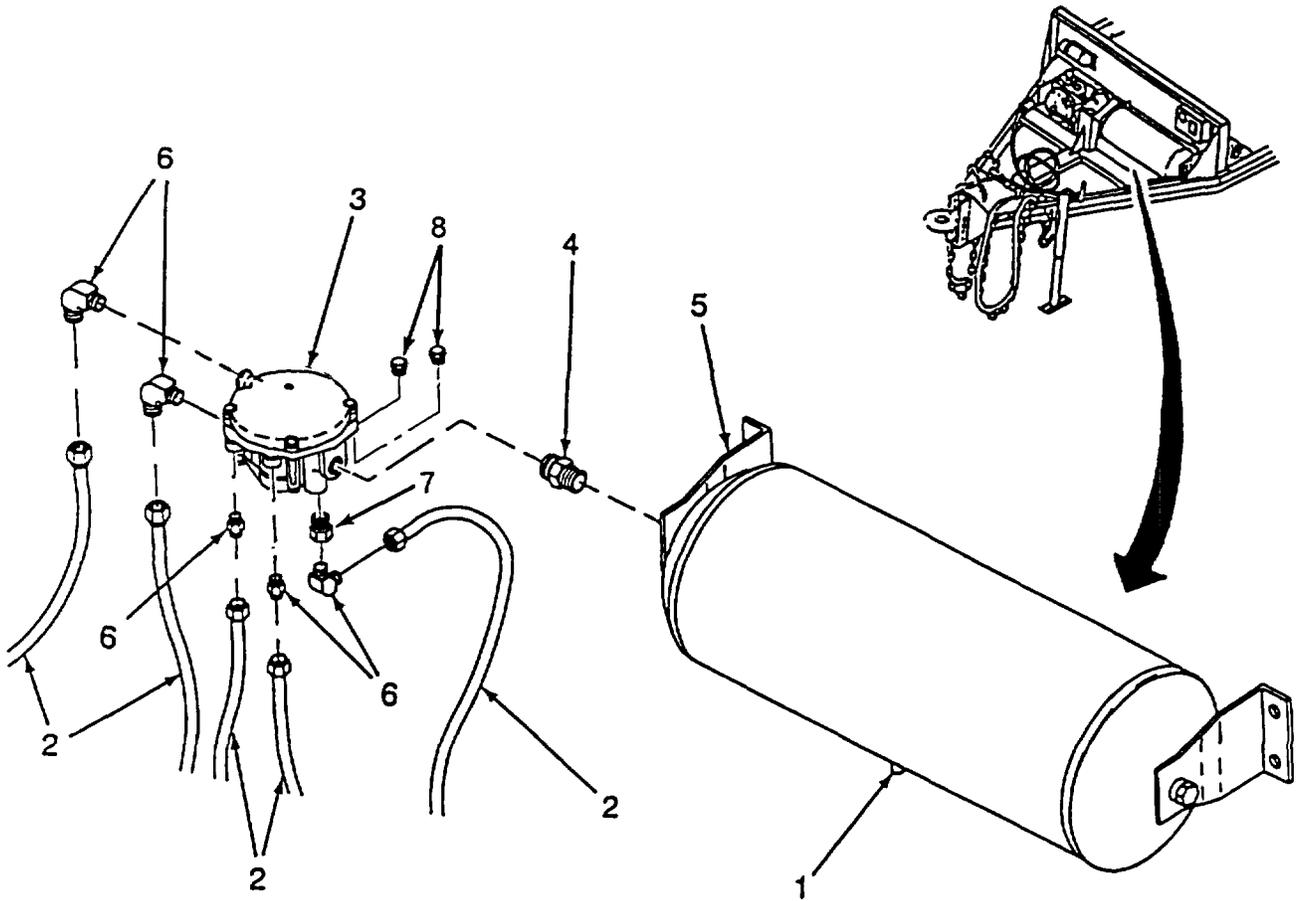

Figure 4-51. Emergency Relay Valve
a. Removal. (Refer to Figure 4-51).
- (1) Completely vent trailer air brake system pressure by opening drain valve (1). Then close drain valve (1).
- (2) Tag and identify five air brake lines (2)
- (3) Disconnect five air brake lines (2) from emergency relay valve (3) fittings
- (4) Unthread hex nipple (4) and emergency relay valve (3) from tank bracket (5)
- (5) Remove hex nipple (4) from emergency relay valve (3).
- (6) Remove five air brake fittings (6), bushing (7) and plugs (8) from emergency relay valve (3) (7) Clean and inspect emergency relay valve (3), fittings (6), bushing (7) and plugs (8) and air brake lines (2).
**NOTE****Before installation wrap threads on hex nipple (4) and fittings (6), bushing (7) and plugs (8) with Teflon Tape.**